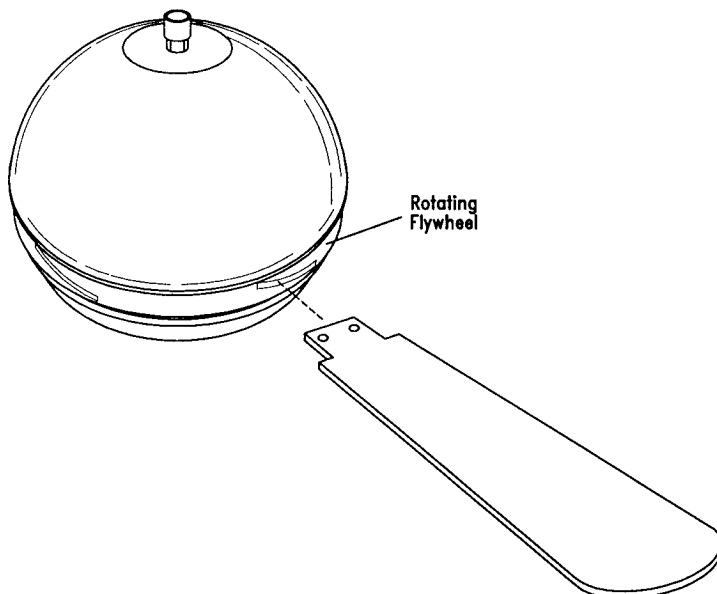

Figure 6
- ☐ 1. Attaching one blade at a time, slide the blades into the slots of the rotating flywheel (see Figure 6).